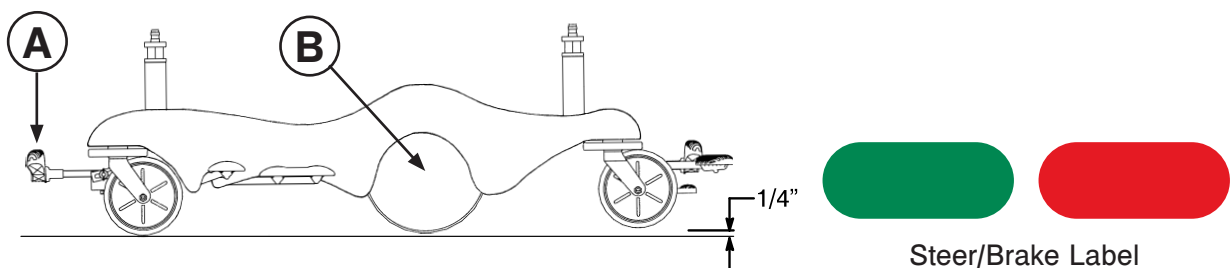

Figure 13: Steer Position
When the brake/steer pedal (A) is in the steer position, the foot end casters are elevated approximately 1/4" and the stretcher rests on the two head end casters and the two Big Wheels (B) as shown in Figure 13. This provides increased mobility and ease of steering the stretcher. See page 21 for pedal operations.